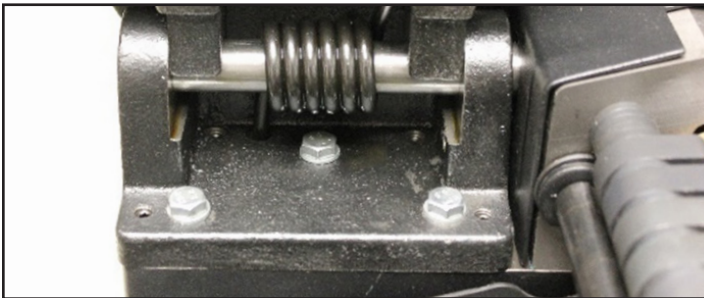
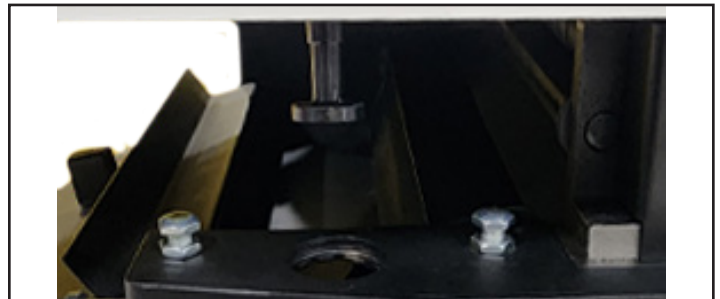

Figure 15: Outfeed Table Adjustment.
Figure 16: Jointer table outfeed Locking Mechanism.
5. After adjustments, lower the outfeed table and reassess flatness with the straight edge. Further adjustments may be necessary to achieve alignment. Once leveled, tighten the three hex bolts (#132) to secure the settings. Ensure the 3 Special Bolts (Figure 16, E,F & G) are firmly in contact with the table's underside.
6. The table can also be tilted forward or back with the 3 Special Bolts FIG 16 E & F. The combination of the 3 hex bolts and 4 set screws (A through F Fig. 15 and 16) provide